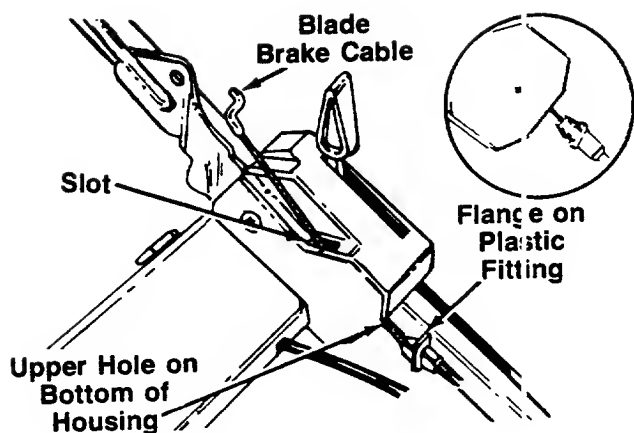

FIGURE 3.
1. The brake cable is attached to the engine, and has a "Z" fitting on the loose end. Route the brake cable in back of the engine, to the outside of the height adjustment handle and handle mounting bracket, and below the lower handle. Place end of cable into the upper hole on the bottom of the control housing, and through the slot as shown. The angle of the plastic flange must be positioned downward as shown in figure 3. Be careful not to bend or kink the cable at any time.